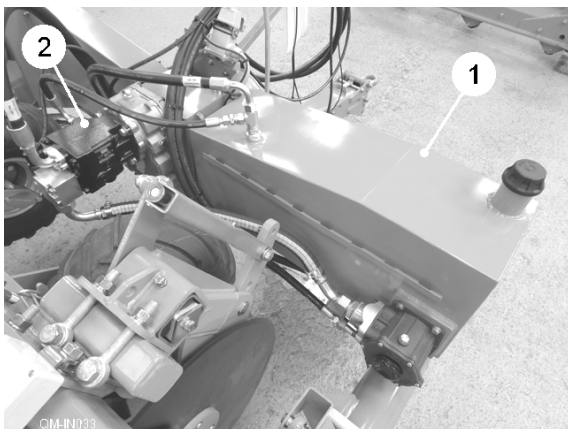
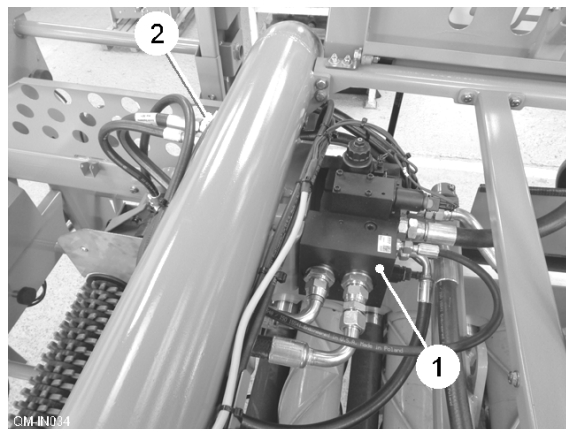

Fig. 27
Fig. 28
The circuit comprises a hydraulic oil tank (item 1, fig. 27), a pump (item 2, fig. 27), and separator valve (item 1, fig. 28) which powers the Omega scroll motors and clod roller motors. The separator valve also powers the spreader motor (if fitted). Return oil from the motors is recombined at the manifold (item 2, fig. 28) and returned back to tank.